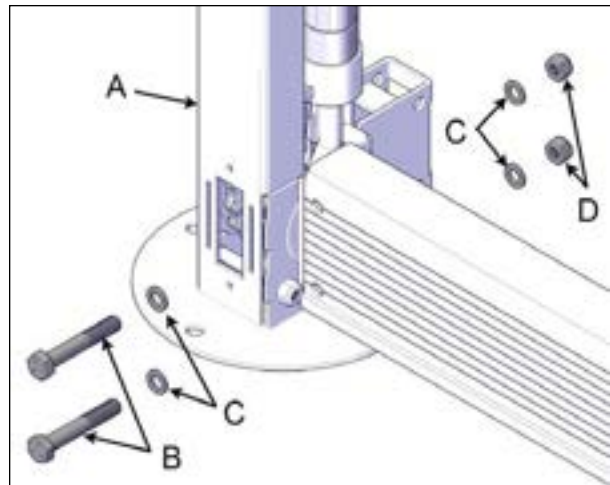

FIGURE 54: LONG U-FRAME INSTALLATION
10. Install the long aluminum U-frame over the left drive shaft and make sure it lines up with motor-side and non-motor-side jack assemblies. Fasten in place using two hexagonal 5/16"-18 x 2" screws, two 5/16"-18 nylon-insert lock nuts and four 5/16" plastic washers(2 by side), with the 1/2" (13 mm) socket wrench and spanner as tools see Figure 54.
The drive shaft may fall off during operation, and reassembling can be done faster when the bolts have not been fully tightened see Figure 54.